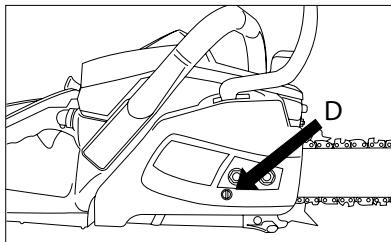

Fig. 11
1. Loosen the tire nuts (protective cover with brake shield) and turn the adjusting screw (D) clockwise to tighten the chain. Turn the adjusting screw (D) counterclockwise to decrease chain tension. Make sure the chain is all the way around the bar (fig. 11).